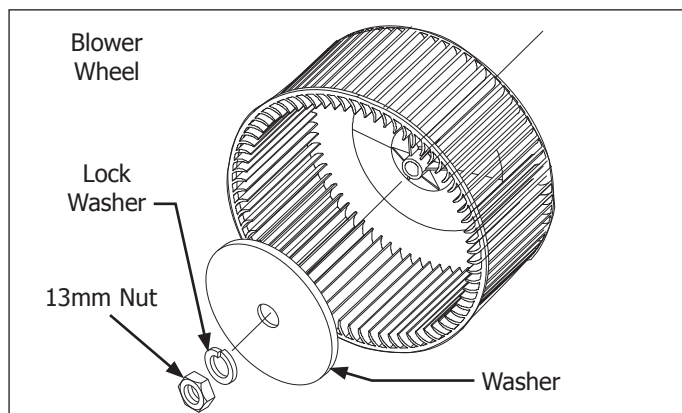

Figure 4-44.
5. Use a 13 mm extended socket to remove the nut from the blower. (See Figure 4-44)